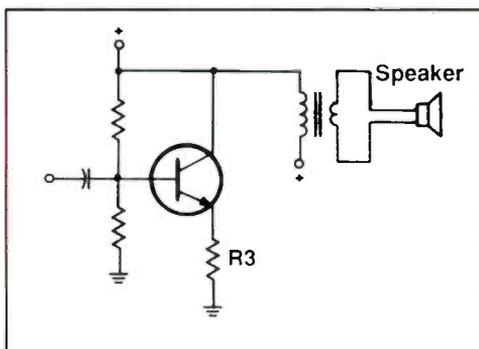

Figure 1. What component would you add to this amplifier to increase sound volume?
9. Add a component to the audio power amplifier in Figure 1 to increase the output sound from the speaker. This is a _____.
The first question is the most obvious. If the power supply is dead, do you have B+ on the appropriate terminal of the switching transistor (either collector or drain)? If B+ is absent, look for a blown fuse or an open fusible resistor (Figure 1). The B+ voltage is routed to the switching transistor through the "primary winding" of a transformer (actually a choke). An open winding in this component will also account for absence of B+ voltage, but in my experience a defective transformer is extremely rare (except in the case of lightning damage).
A blown fuse or fusible resistor almost always indicates shorted components, usually at least the switching transistor and sometimes the bridge rectifier. Routine troubleshooting will enable you to spot and replace such defective components. A good rule of thumb to follow is: if the switching transistor is shorted, replace it and its control transistor (Q1 and Q2 in Figure 1).
Figure 1. If you are faced with a TV set in which the power supply is dead, the first question to ask is do you have B+ on the appropriate terminal of the switching transistor (either collector or drain)? If B+ is absent, look for a blown fuse or open fusible resistor. →
Now look at a more complicated power supply (Figure 1), one Samsung has used extensively in its VCRs and the VCRs it has vended for others. Besides Q1 and Q2 what can cause the no-oscil-
6V line in Figure 1. You will need to change grounds when you monitor these voltages because you are moving from hot ground to cold ground.
mal sounds from the switching transistor. If there is no squeal, if the waveform at the collector/drain looks normal, and if the voltage regulates at or very near what it is supposed to (Figure 1 at slightly less than 6V and Figure 4 at slightly more than 5V), increase ac to the full 120V. If everything still looks good, congratulate yourself because you have completed the repair.
What can cause absence of output or very low output? Usually a shorted component in one or more of the secondary sources. Take another minute and check the components in the secondary voltage sources. Most of these kinds of problems will be caused by shorted diodes, especially zener diodes. This applies whether you are troubleshooting a VCR or a TV SMPS. The last Samsung supply I worked on (Figure 1) had two shorted diodes in the secondary: ZD4 and ZD6. These diodes often short when the supply experiences catastrophic failure (like lightning) or loses regulation. Remember that shorted diodes in TV supplies (like CR4106 in Figure 3) also cause very low or no output. Sometimes a shorted diode like CR4106 will cause the regulator IC or transistor to fail. The last CTC177 I worked on had a defective U4101 because CR4106 had shorted.
Look again at Figure 1. If you are monitoring the ever 6V line and the voltage goes beyond 6V and continues to rise, the